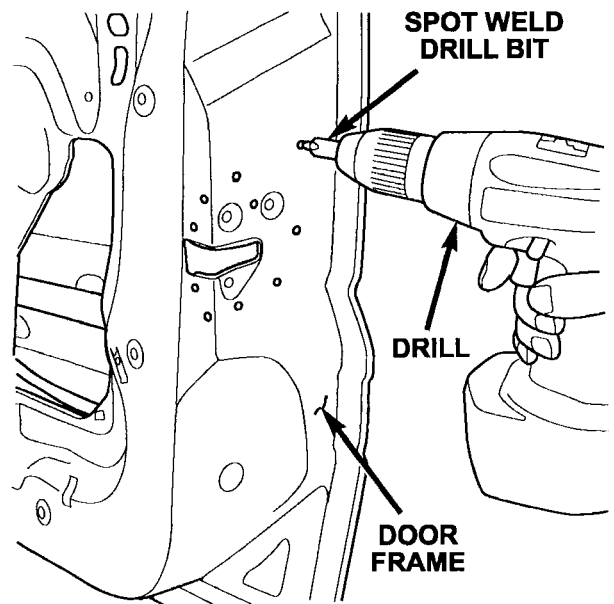

Figure 4
- 12. Using a spot weld drill bit (Snap-on YA2550-2 or equivalent) or a sharp twist drill bit, drill out the spot welds that hold the reinforcement plate to the door frame (Figure 4).